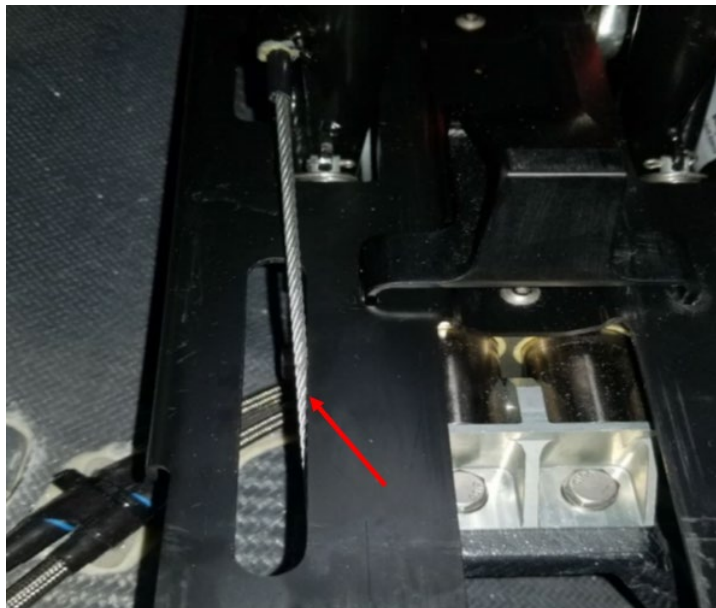

Figure 2. Relieve interference for AFT Recessed Floor Closeout Panel
3. Move the rudder pedals, in their full range of motion, paying close attention to AFT Recessed Floor Closeout Panel (**Figure 2**) and Floor Closeout Retainer Bracket (**Figure 1**). The condition is most evident with the pedals in the aftmost position. Using a sharpie pen, mark any interference present on AFT Recessed Floor Closeout Panel and/or Floor Closeout Retainer Bracket. The interference will be removed in a subsequent step.
- a. Minimally trim along the free edge of the aft floor closeout panel at the area of interference as required to permit proper fit. See **Figure 2** for reference. From the edge, maintain a maximum blend depth of 0.200 inch and length to mimic the original profile of the cutout.